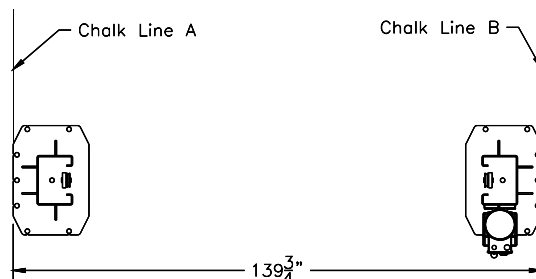

Fig 1 – Column Layout
See Figure 1	E12
- Using the Overall Width (C) Dimension from **Fig 1**, chalk two parallel lines on the floor within 1/8" tolerance. Erect both column assemblies. Align the base plate edges to the chalk lines.
- 6) Recheck "Inside of Columns" dimension, **Fig 1**. Drill the anchor holes using the base plate as a template. Drill through the floor if possible or to a depth of 5 inches minimum.